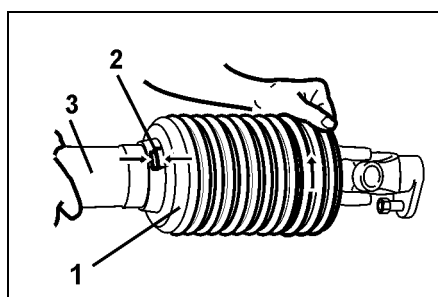

Fig. 36
2. Twist the funnel (Fig. 36/1) in fitting position (Fig. 36./2).
3. Pull off guard cone (Fig. 36/3).